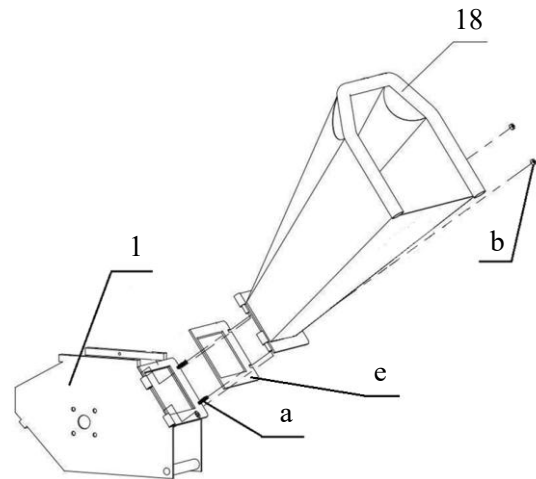

Fig. 4a
- Ensure that the gasket (e) is placed between the feeding hopper (18) and the chipping chamber (1). Align the hinge pin with the mounting hole, and connect them as shown in Figures 4a and 4b.